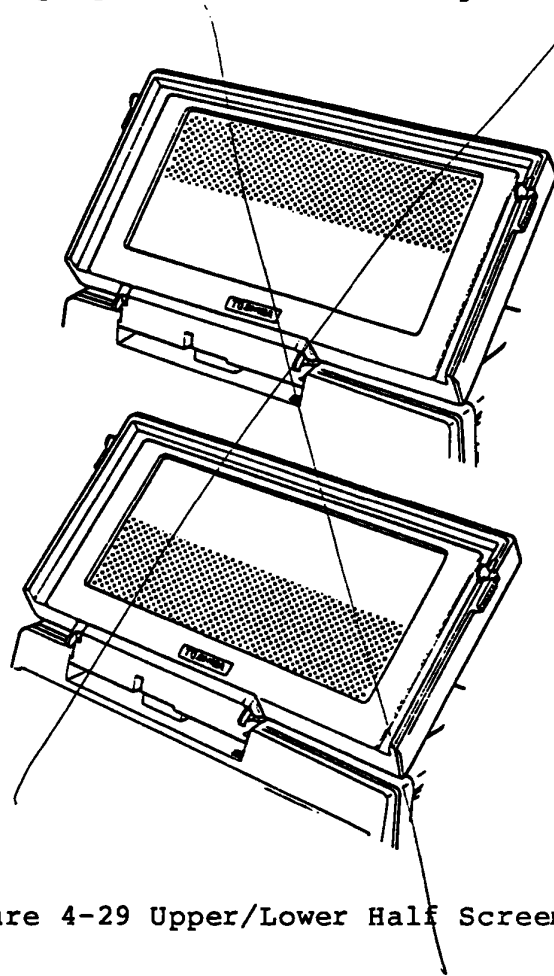

Figure 4-29 Upper/Lower Half Screen Check
1. Check the LCD screen for whether a half of LCD screen is unable to display as shown in the figure 4-29.